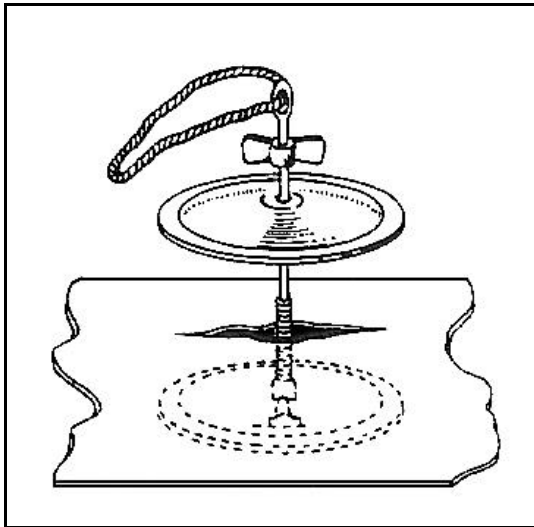

Figure 10-28. Sliding Top Clamp Over
- Pull the bottom clamp against the inner surface of the tube, and slide the top clamp over it (Figure 10-28).